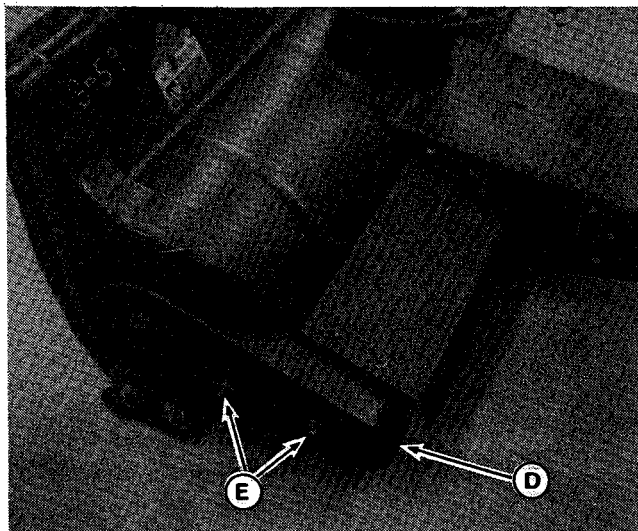

Figure 11A.
1. Remove the chain guard (D, figure 11A) by removing the two nuts (E).